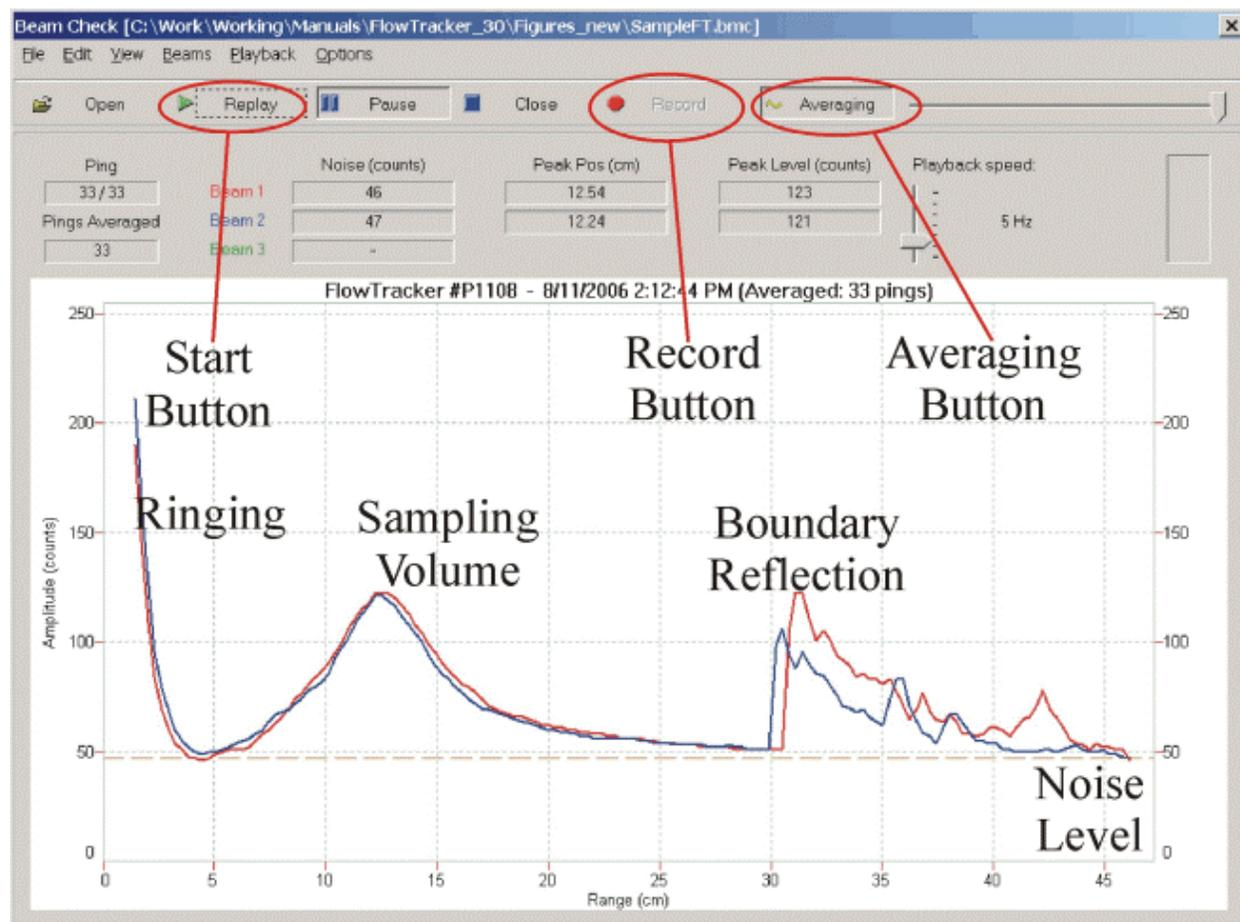

Figure 18 – BeamCheck Sample Output Screen
The plot of signal strength versus time shows several features (Figure 18):
- If the probe is close to a boundary (bottom, surface, or side), a sharp reflection should be seen. The size and shape of this reflection will vary depending on the nature of the boundary, its distance from the FlowTracker, and the acoustic conditions of the water. We can estimate the distance from the probe to the boundary by the location of the boundary reflection. In Figure 18, this occurs at about 30 cm from the probe.